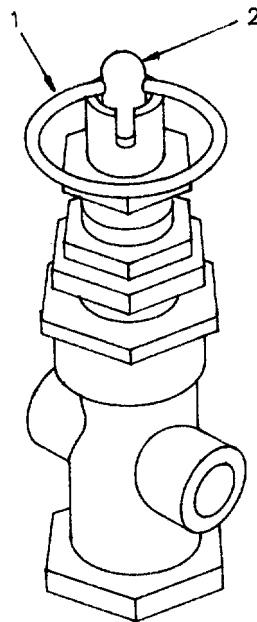

Figure 3-1. Pilot Valve.
Slightly tap on side or pull ring up (1, Figure 3-1). If pull ring (1) is stuck in manual locking position (2), twist and release.